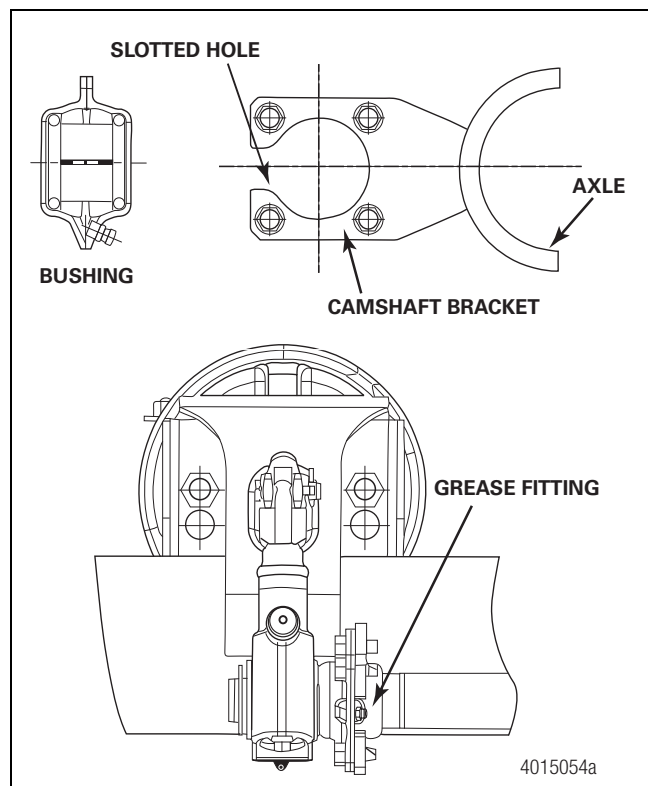

Figure 11.9
- The current production arrangement consists of a bushing with a straight grease fitting installed onto a camshaft bracket with a slotted hole. When assembled, the grease fitting is oriented away from the slack adjuster. Figure 11.9.